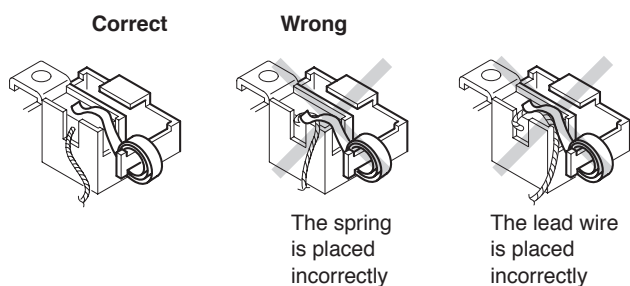

Fig.20
- (2) Lift the spiral Spring, remove the Carbon Brush and replace it with the new Carbon Brush. (Fig.20)
- (3) Check that the cable is correctly connected.
- (4) Attach the Cover and securely tighten the Pan Head Tapping Screw. Be sure that the Tapping Screw is correctly threaded; do not attempt to tighten if the screw is cross-threaded.